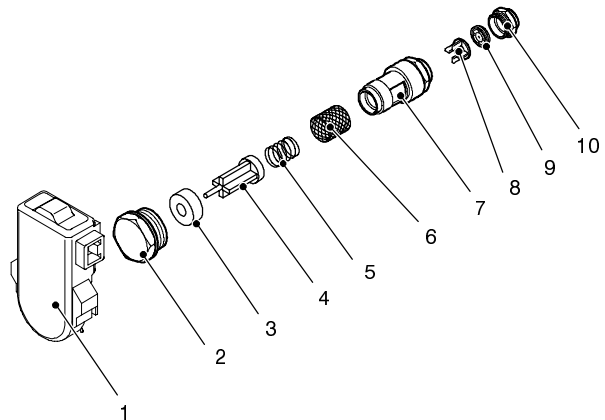

Fig. 58
When the flow rate through the d.h.w. circuit reaches about 2,5 litres/min', the float 4 (Fig. 58) is drawn towards the right.
14.2 Nomenclature and location of parts (Fig. 58)
- 4 Unscrew the plug 2 (Fig. 58) and extract the flow switch group.
- 5 To remove the filter from the flow switch group separate the body 7 from the plug 2 (Fig. 58) by unscrewing it.
- 2 Unscrew the threaded ring 10 (Fig. 58) and remove it from the body 7.